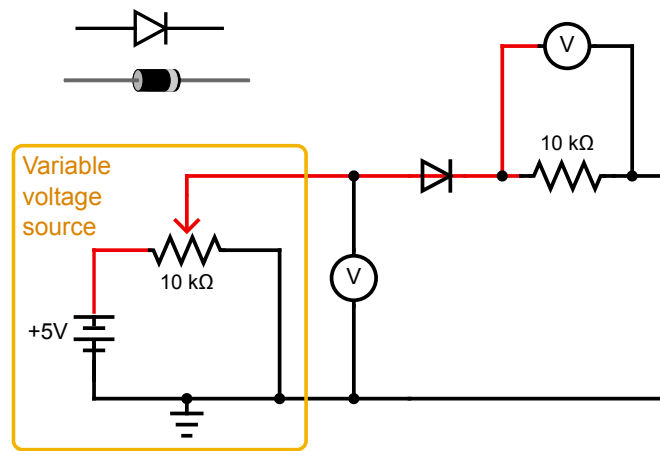

Figure 3: Circuit diagram to make a variable DC voltage source
- Use your variable voltage source to build the rest of the circuit in Fig. 3. Start with the diode forward biased (i.e. with current flowing from the end without a bar to the end with a bar).